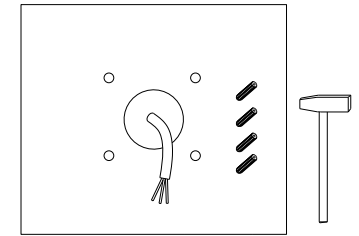

Figure 13
2. Fix rubber plugs into holes. (Figure 13)